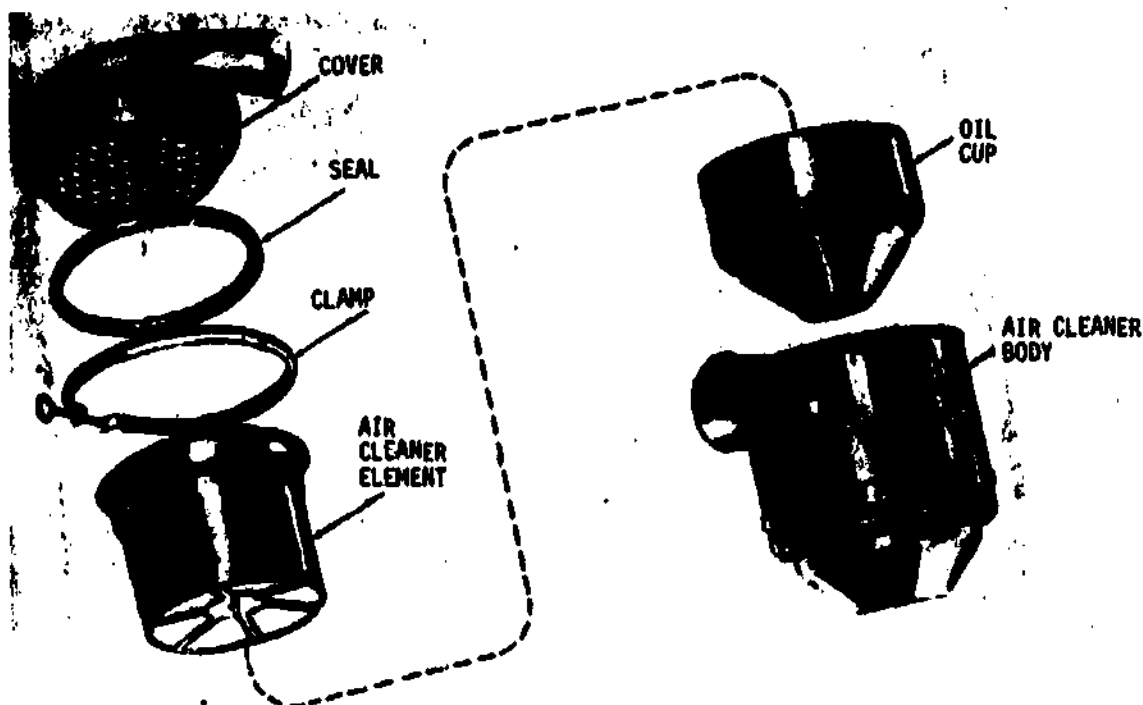

Fig 2-19. Assembling the air cleaner.
a. **Cleaning.** Wash the oil cup, air cleaner element, and air cleaner body in drycleaning solvent or mineral spirits. Dry them with a clean cloth. Place the oil cup in the air cleaner body and fill it to the level mark with engine oil. Make sure that you don't overfill it. If the cup is overfilled, it may cause oil to be drawn into the cylinders. Next replace the air cleaner element and cover (fig 2-19).